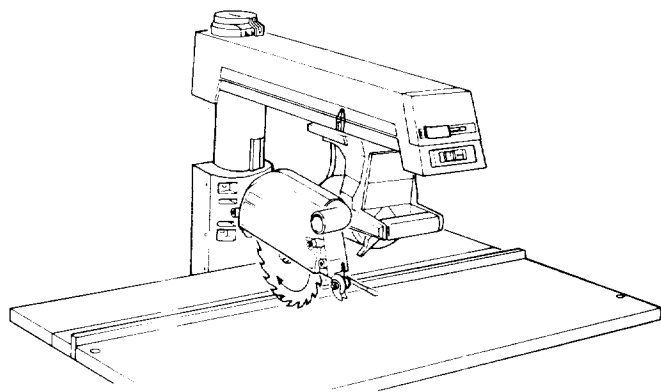

Fig. 78
2. Place the *guard* over the *blade*. You will feel the *guard* fall into place when the ridge on the inside of the *guard* slides into the slot on the *motor*. (Figure 78)